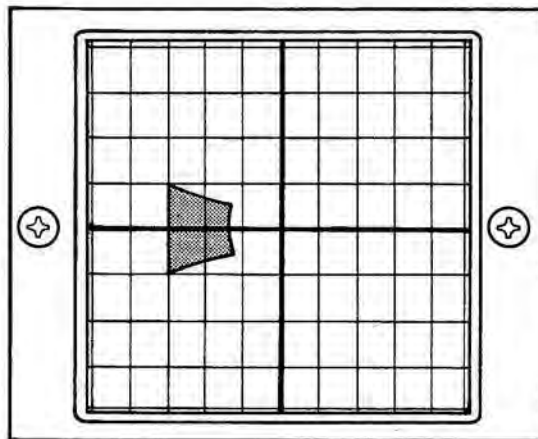

Figure 3-16 Trapezoidal Waveform
7. Rotate SWEEP Control (29) to "MOD FREQ".
8. Set AM/FM Switch (21) to "AM" and verify that a trapezoidal waveform is displayed on CRT Display (36) as shown in Figure 3-16.